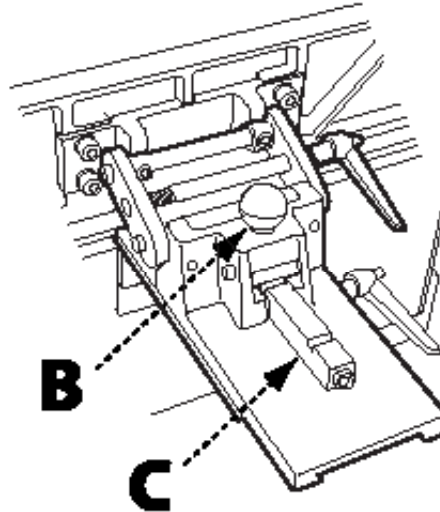

FIGURE 6
(C) in the mortised hole, as shown in Figure 6. Releasing the pin will lock the angle stop in place. When locked in the fully-engaged position, the stop is at 90°. When locked in the partially engaged position, it is at 45°.